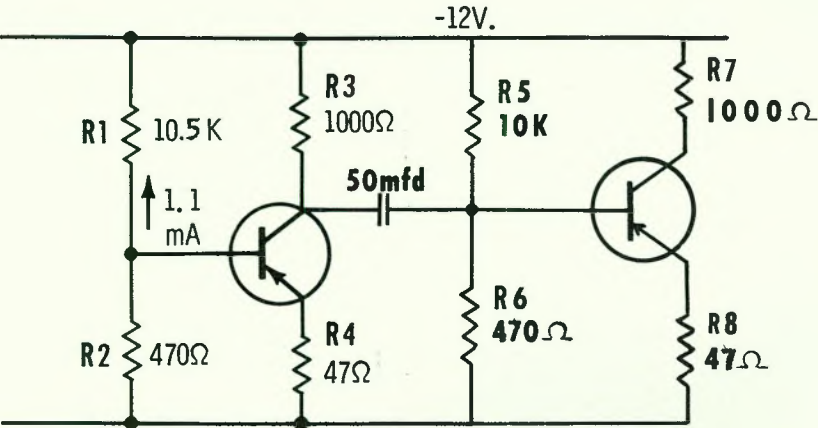

FIG. 10
Fig. 10 shows two identical stages and the calculations which must be made to determine the working gain of a stage. The emitter resistor is multiplied by the current gain to find the value of resistance reflected to the base. This reflected resistance is shunted across R2 (or R6) and the parallel circuit of the two resistances determines the effective input resistance.
As stated before, the nominal current of Q2 should be 10 times the base current, or 1 ma. However, since standard resistors are used for R1 and R2, the current through the base resistance and the bias resistor, R1, is increased slightly. The total current through the effective input resistance varies between 1.5274 and 1.14943 ma; an arbitrary value of 1.15 ma was chosen for the calculations on lines 4 through 8 of Fig. 10.
Next we come to gain calculations and impedance relationships. The input impedance at the base will vary between 394 and 420 ohms (Fig. 10, line 8), according to transistor gain. The output impedance of the stage will be practically 1000 ohms because the collector impedance of the transistor, with a 47-ohm emitter resistor, will be much higher than the 1000-ohm collector resistor—essentially, the circuit is a constant-current source. To calculate overall gain, we have two alternatives at this point.
The average impedance to ground of the circuit in Fig. 10 will be 411 in parallel with 1000 ohms, or 290
ohms (Fig. 10, line 9). Assume a 1-mv signal at the base of one stage. Base-input resistance varies between 3300 and 6600 ohms, admitting input base currents of 300 or 150 nanoamps, respectively. With corresponding gains of 70 and 140, the collector current (AC) will be 21 microamps in either case. With an
From these two sets of calculations (Figs. 10 & 11), a fundamental relationship in this kind of circuit begins to show: the maximum gain—and this can be regarded as voltage gain—is set by the relative values of emitter and collector resistors. With 47 ohms and 1000 ohms, it can never exceed 20, because 1000 is approximately 20 times 47.